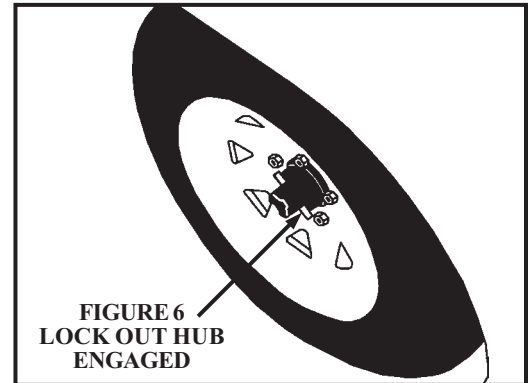

FIGURE 6
10. Turn off engine, release parking brake, and disconnect lock out hubs (See Figures 6 & 7).